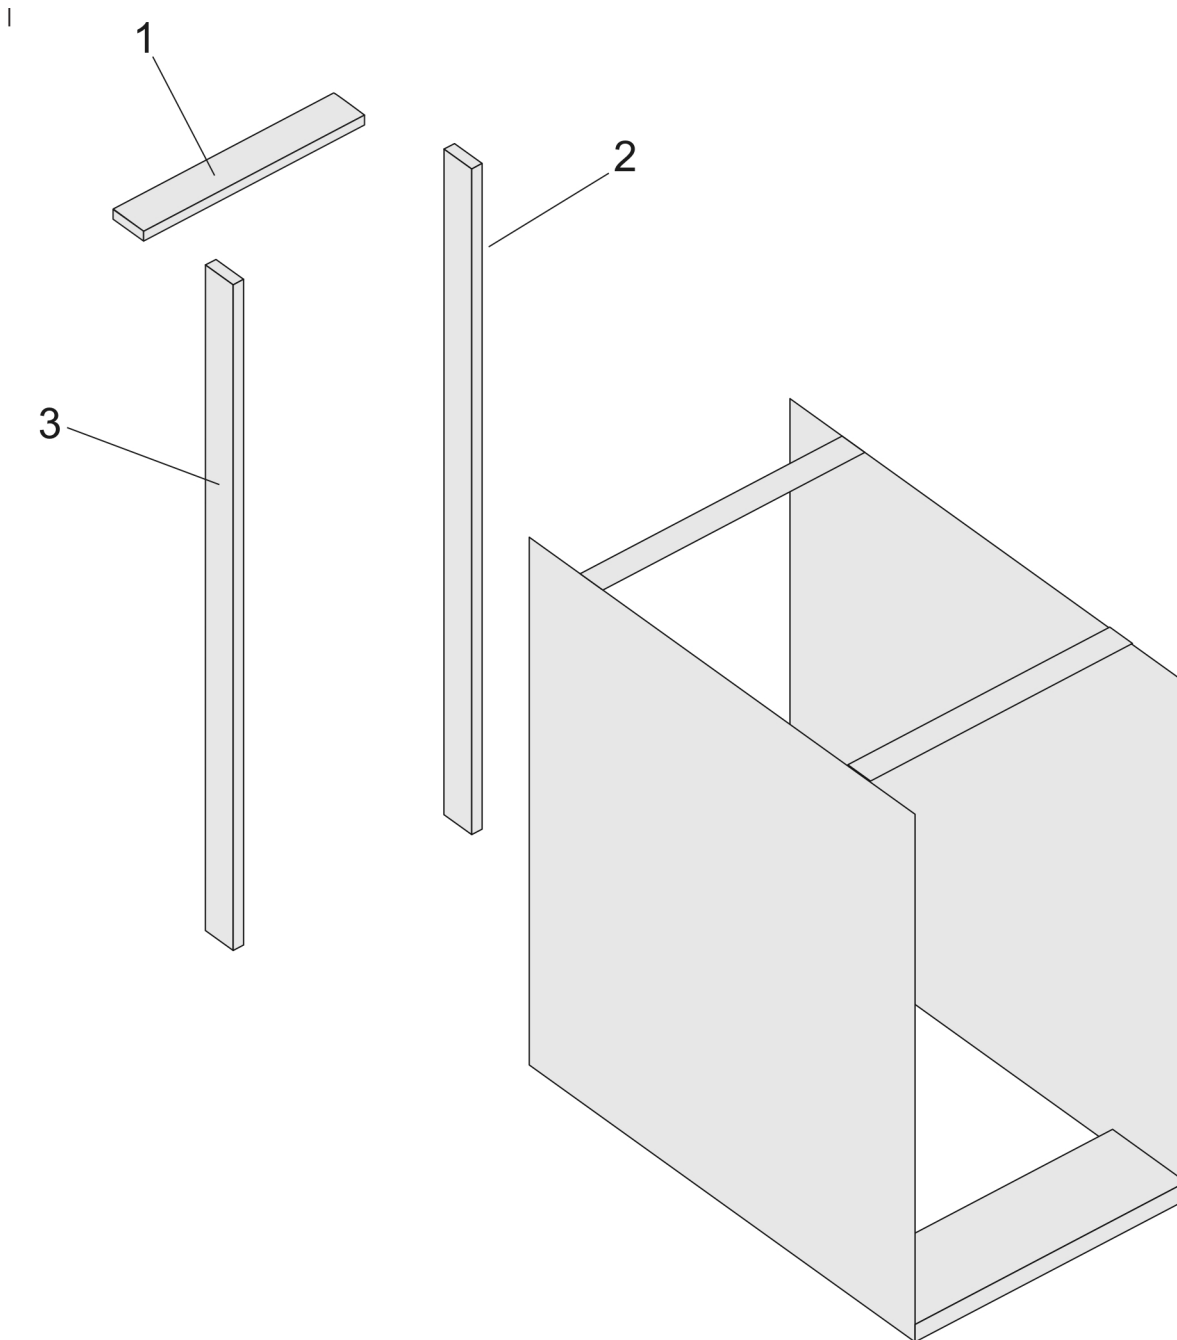

Figure 25. Removing the eight inch frame extender
- | 3. Remove and discard the existing top extender by removing the two screws (refer to 1 in Figure 25 on page 82)
- | 4. Remove and discard the existing left side extender by removing the three screws (refer to 2 in Figure 25 on page 82)
- | 5. Remove and discard the existing right side extender by removing the three screws (refer to 3 in Figure 25 on page 82)